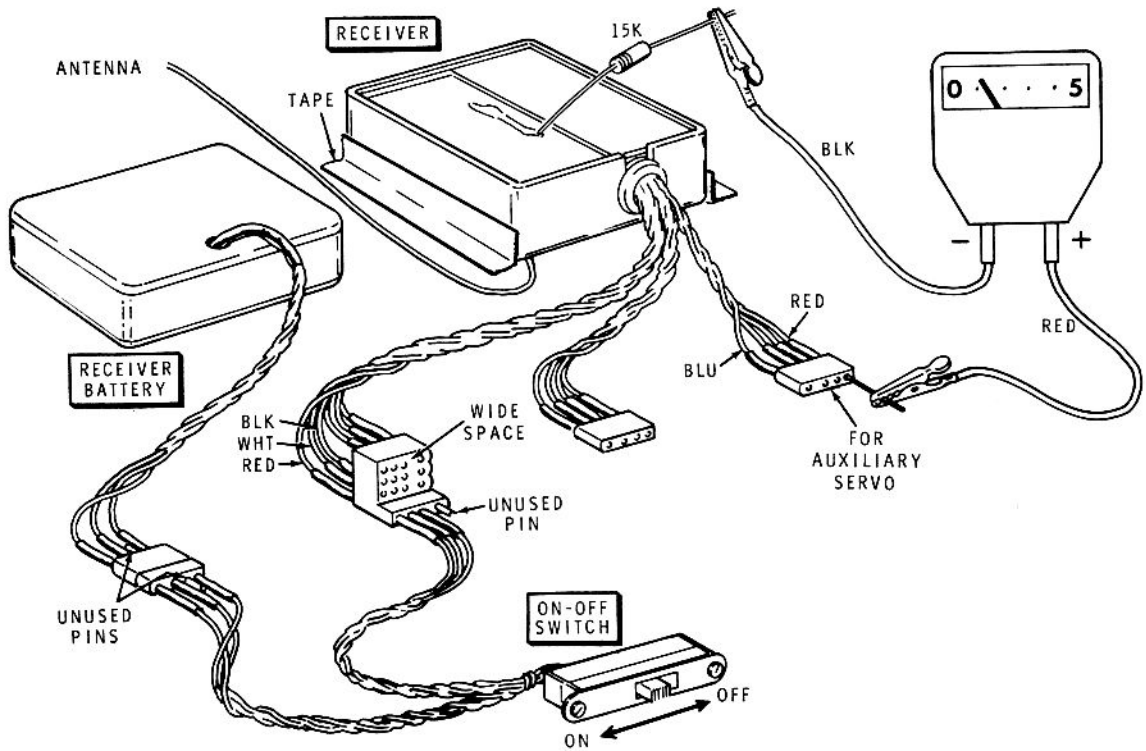

Figure 3-4
Refer to Figure 3-4 for the following steps.
NOTE: There is only one correct way to connect the receiver switch to the large receiver black connector. Refer to Figure 3-4 for proper installation.
- () Turn the Receiver on. The meter should deflect only a slight amount. See the meter drawing on Figure 3-4.